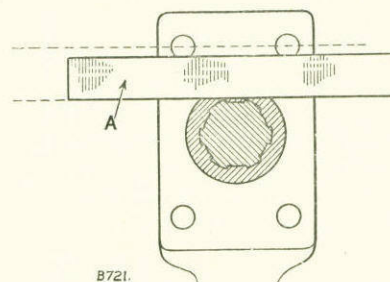

Fig. F-17—
5. **Top swivel pin only.** Fit the new pin, by positioning its splines in relation to the track rod lever as shown at Fig. F-17, that is with a splined groove placed in line with the longitudinal axis of the track rod lever. This is very important as it ensures that the cone is located correctly.